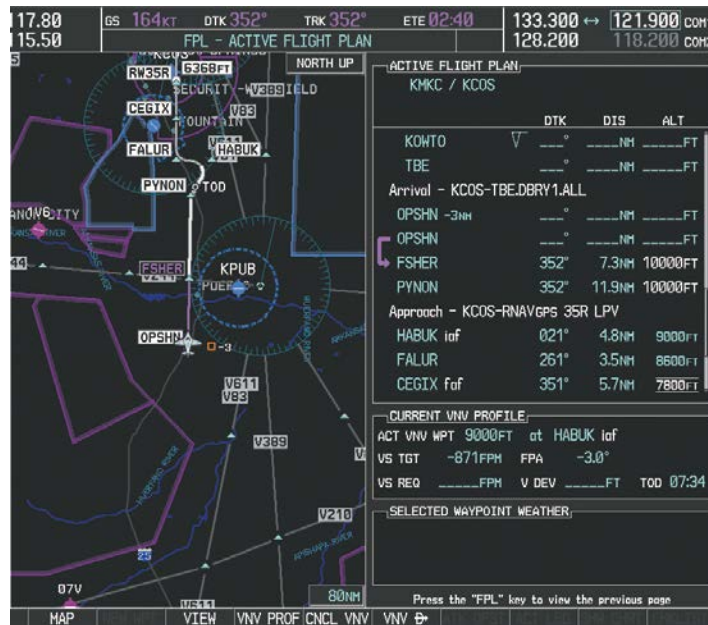

Figure 5-142 Tracking the OPSHN to FSHER Leg
- 19) After passing OPSHN, the next leg of the arrival turns magenta as shown in Figure 5-142. The magenta arrow in the flight plan list now indicates the OPSHN to FSHER leg of the arrival procedure is now active.